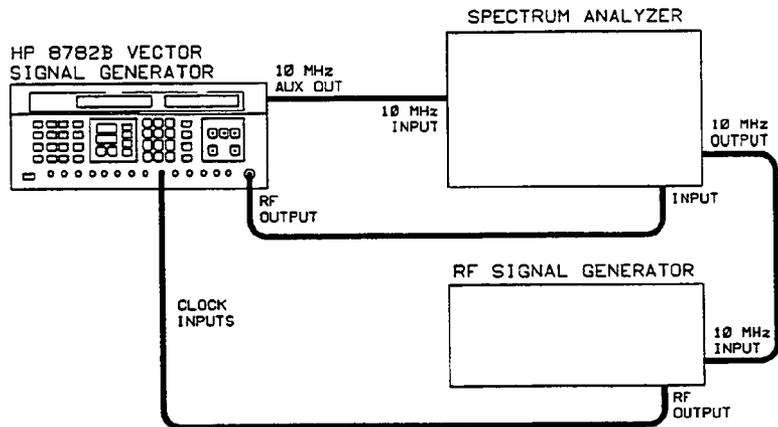

Figure 5-27. PRBS Clock Rates Test Setup
1. Connect the equipment as shown in Figure 5-27.